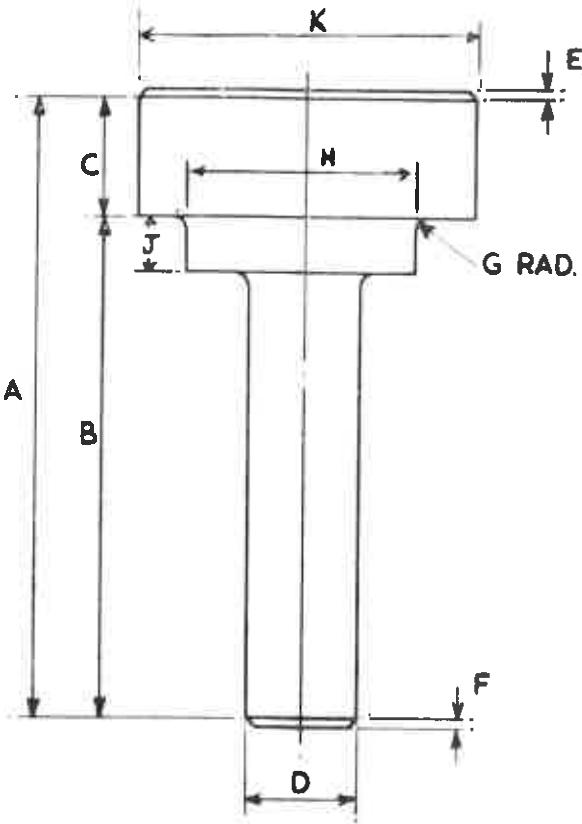

Fig. J.8.
4. Remove all machining swarf and thoroughly clean the insert recess (removing any burrs which may be present) and, once more using the valve guide bore as a pilot, press the insert home with the applicable inserting tool (See Fig. J.8) using a steady pressure with either a hand or hydraulic press. The tool will ensure squareness. Under no circumstances should the insert be hammered in, neither should lubrication be used when pressing in the insert.